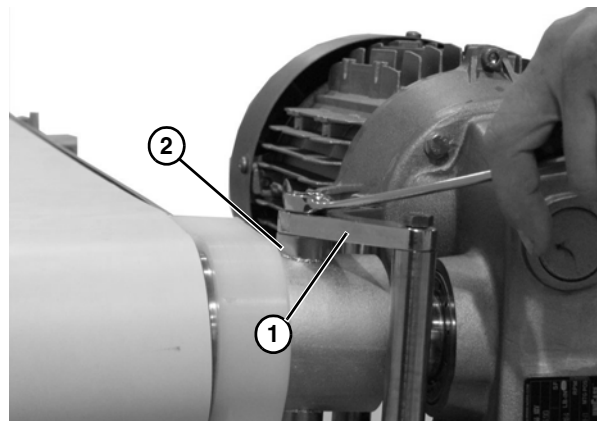

Figure 54
3. Remove the top gearhead mounting bar (**Figure 54, item 1**) from the motor mounting bracket (**Figure 54, item 2**).